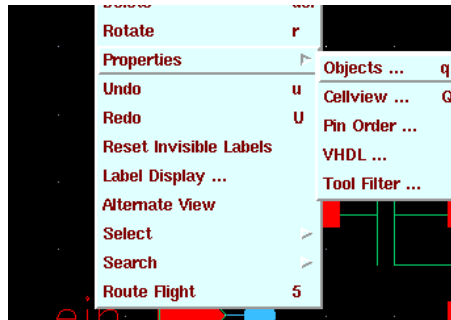

Figure 2.3: Some commands gives a new set of choices.
- If it is trailed by an arrowhead (▷), like *Properties*, a new set of commands will appear as in fig. 2.3.